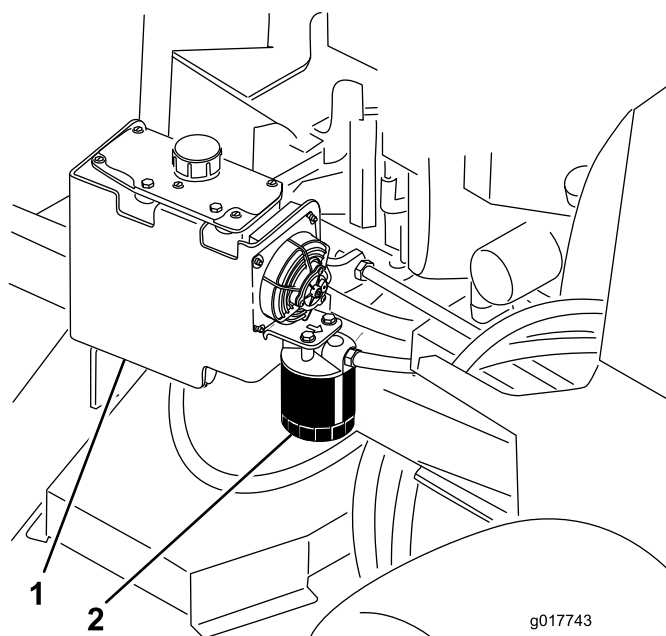

Figure 82
3. Locate the filter and place drain pan under filter (Figure 82).